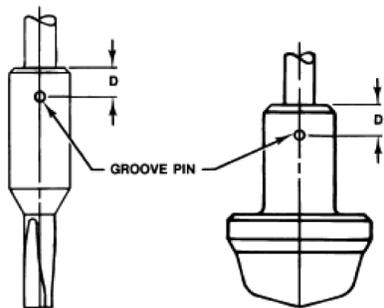
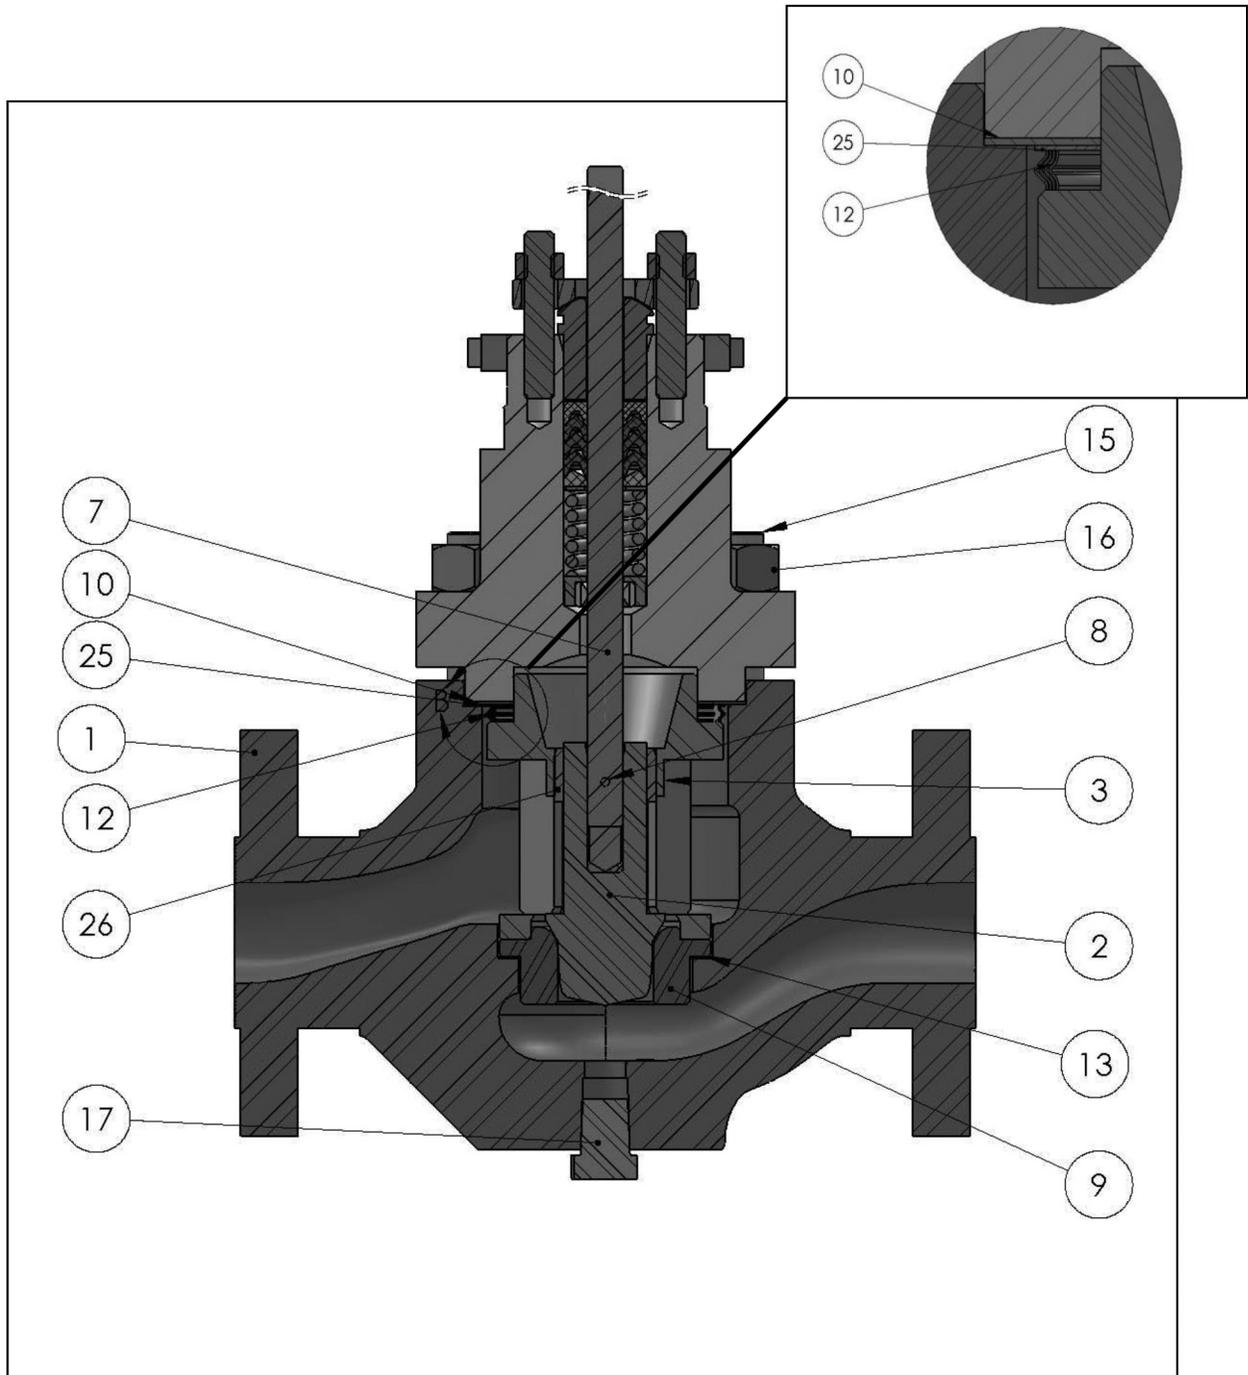

Figure 9. Bolt Torque for Plug/Stem Connection and Plug/Adaptor Connection and Pin Replacement
Figure 12. Mark EZ Series Control Valve
1. **For valves with metal seats**, screw the valve stem (key 7) into the valve plug (key 2). Tighten to the torque valve given in figure 9. Refer to figure 3 to select the proper drill size. Drill through the stem using the hole in the valve plug as a guide. Remove any chips or burrs and drive in a new pin (key 8) to lock the assembly.
2. **For valves with 1/4 and 3/8-inch ports and composition seats**, refer to figure 12. Place the disk (key 29) on the valve plug tip (key 30). Place the disk retainer (key 28) over the disk, and then thread the disk retainer onto the valve plug guide (key 27).
For valves with 1/2 through 1-inch ports and composition seats, refer to figure 12. Insert the disk (key 29) in the valve plug guide (key 27). Screw the tip (key 30) onto the valve plug guide to clamp the disk in place. Using a 3/32-inch bit, drill through the valve plug guide using the hole in the tip as a drilling guide. Remove any chips or burrs and drive in a new pin (key 31).
To avoid failure in service, never reuse an old stem with a new valve plug guide. Using an old stem with a new valve plug guide requires drilling a new pin hole in the stem, which will weaken the stem. However, a used valve plug guide may be reused with a new stem except for valves with 1/2 through 1-inch ports and composition seats (see to figure 12). For these constructions, a used valve plug guide should only be used if the tip is reused.
3. **For all valves with composition seats,** screw the valve stem (key 7) into the valve plug guide (key 27, figure 12). Tighten to the torque value given in figure 10. Refer to figure 9 to select the proper drill size. Drill through the stem, using the hole in the valve plug guide as a drilling guide. Remove any chips or burrs and drive in a new pin (key 8) to lock the assembly.
4. Install the seat ring gasket (key 13), and replace the seat ring (key 9). With some valve plug sizes and configurations, the valve plug or tip will slide through the seat ring retainer and bushing assembly (keys 3 and 26), and in other configurations it won't.
5. If the valve plug (key 2) or valve plug tip (key 30, figure 12) will not slide through the seat ring retainer and bushing assembly (keys 3 and 26), proceed as follows:
6. If the valve plug (key 2) or the valve plug tip (key 30, figure 12) will slide through the seat ring retainer and bushing assembly (keys 3 and 26), proceed as follows:
Composition seats, refer to figure 12. Insert the disk (key 29) in the valve plug guide (key 27). Screw the tip (key 30) into the valve plug guide to clamp the disk in place. Using a 3/32-inch bit, drill through the valve plug tip using the hole in the valve plug guide as a drilling guide. Remove any chips or burrs and drive in a new pin (key 31).